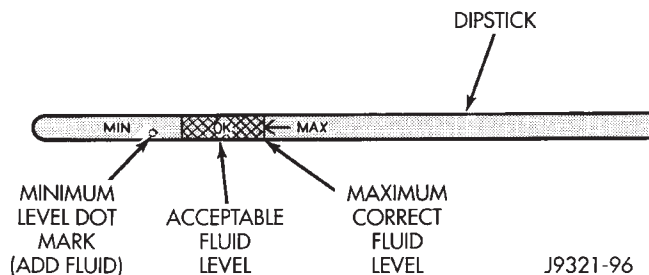

Fig. 1 Fluid Level Marks On Transmission Dipstick
- (1) Transmission fluid must be at normal operating temperature for accurate fluid level check. Drive vehicle if necessary to bring fluid temperature up to normal hot operating temperature of 82°C (180°F).
- (2) Position vehicle on level surface. This is extremely important for accurate fluid level check.
- (3) Start and run engine at curb idle speed.
- (4) Apply parking brakes.
- (5) Shift transmission momentarily into all gear ranges. Then shift transmission back to Neutral.
- (6) Clean top of filler tube and dipstick to keep dirt from entering tube.
- (7) Remove dipstick and check fluid level as follows:
- (a) Dipstick has three fluid level indicator levels (Fig. 1) which are a MIN dot, an OK crosshatch area, and a MAX fill arrow.